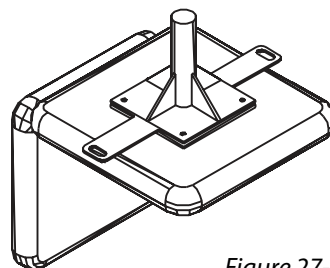

Figure 27-3
4. Attach the Anchor Plate in the center of the seat plate evenly, with the holes on each end. [Figure 27-3]